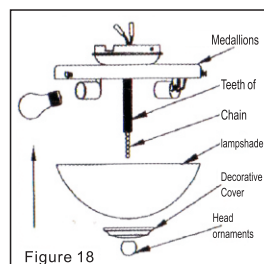

Figure 18
3. sequentially lampshades, decorative covers, decorative head through the chain, the ornaments will head lock teeth of sturdy glass (Figure 18).